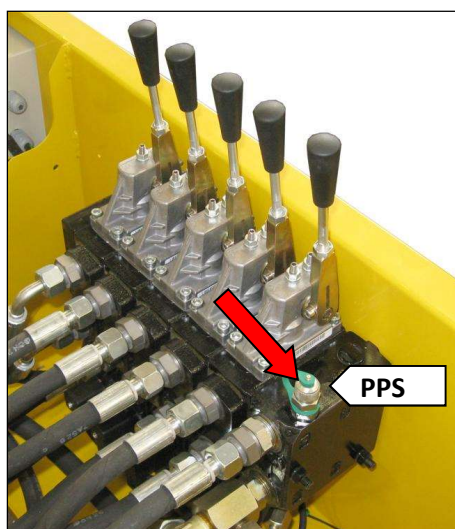

Figure 24
- Plug a pressure gauge 0-250 bars (0-4000 psi) at pressure port (Figure 24 page 47).